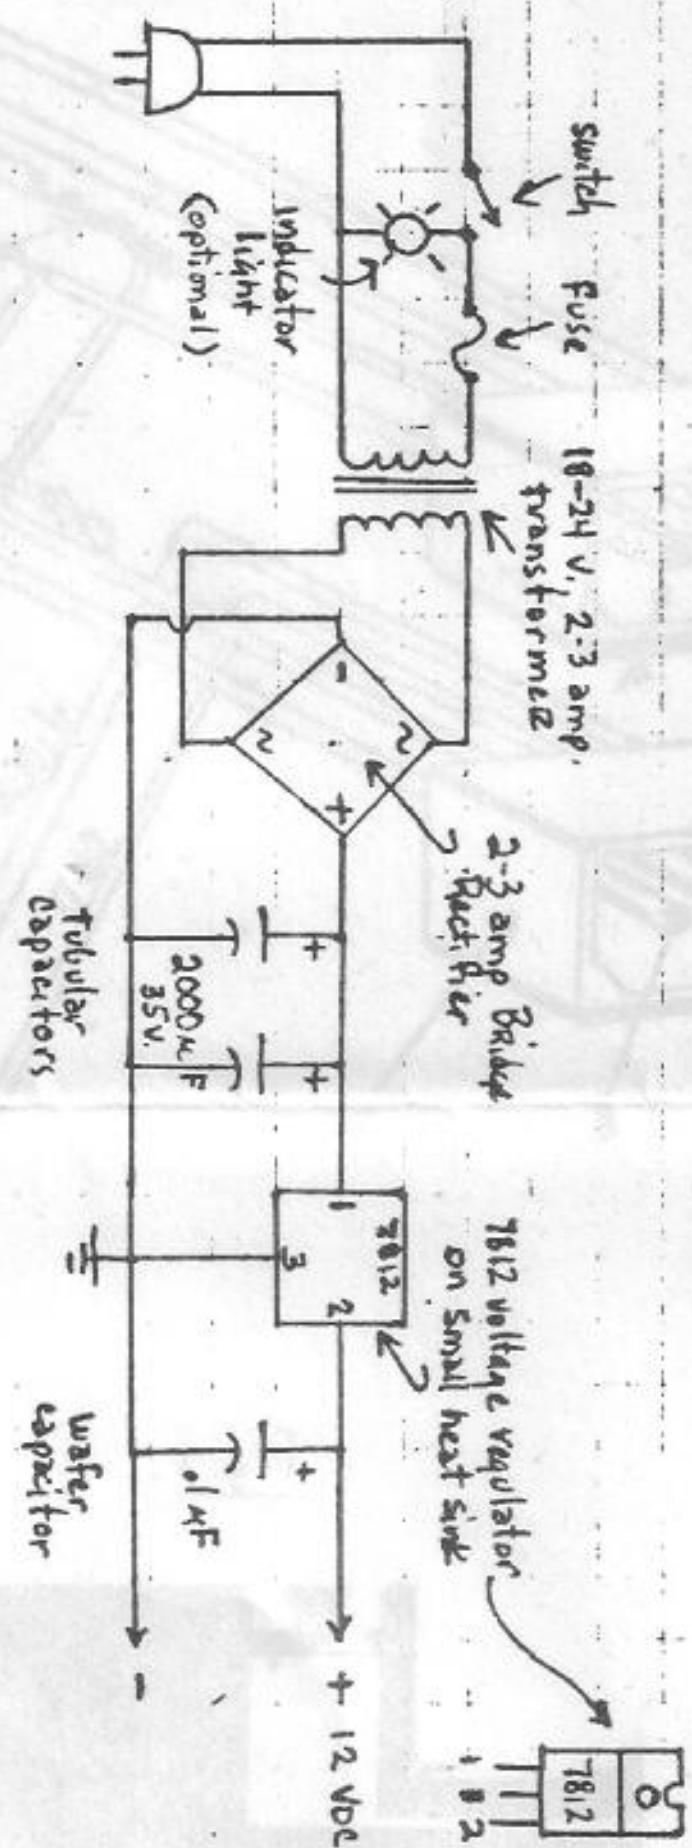

Fig. 2 1.2 amp 12 VDC Power Supply
2) A 12vdc regulated power supply may be purchased or it can be easily constructed for less than \$20. Fig 2 is a schematic for such a supply. A suitable enclosure for the supply can be purchased or formed from sheet metal or plastic. For ease of identity the 12v output wires should be the same color as the PEB power source wires. Pin 1 (violet or purple) is positive; pin 2 (red) is negative.